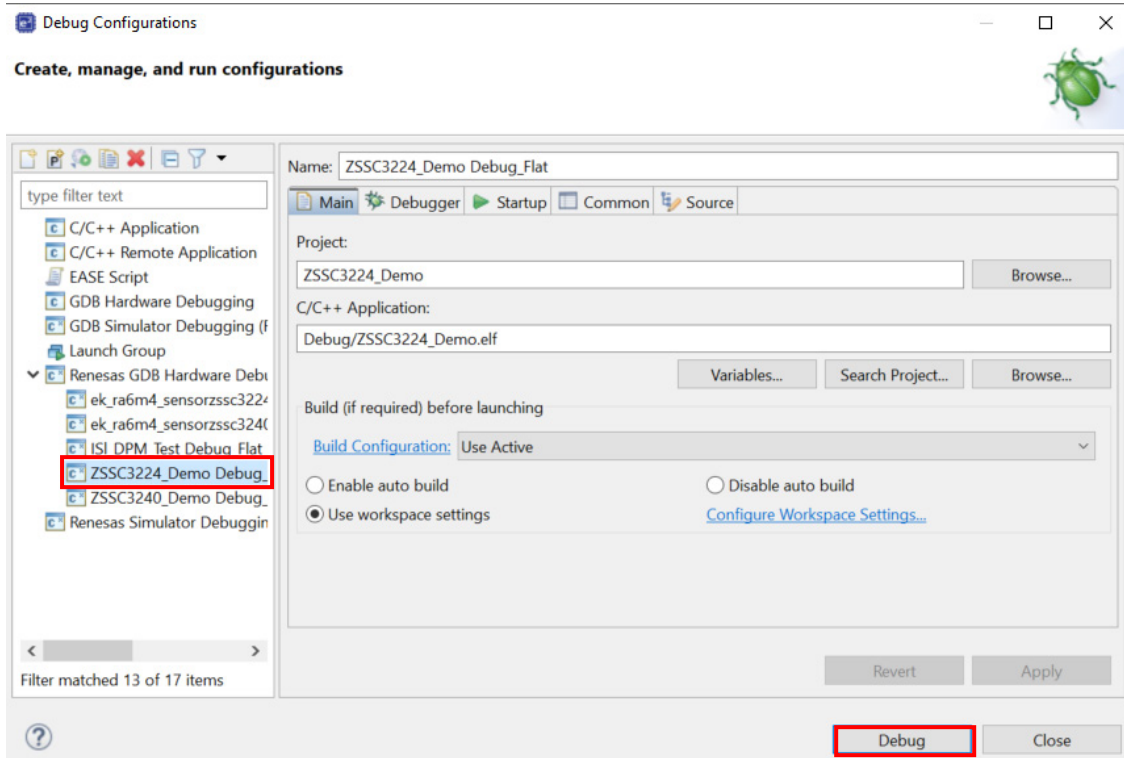

Figure 8. Start Debug Mode
- 4. Select **Renesas DGB Hardware Debugging** → **ZSSC3224_Demo_Debug_Flat** (see Figure 8).